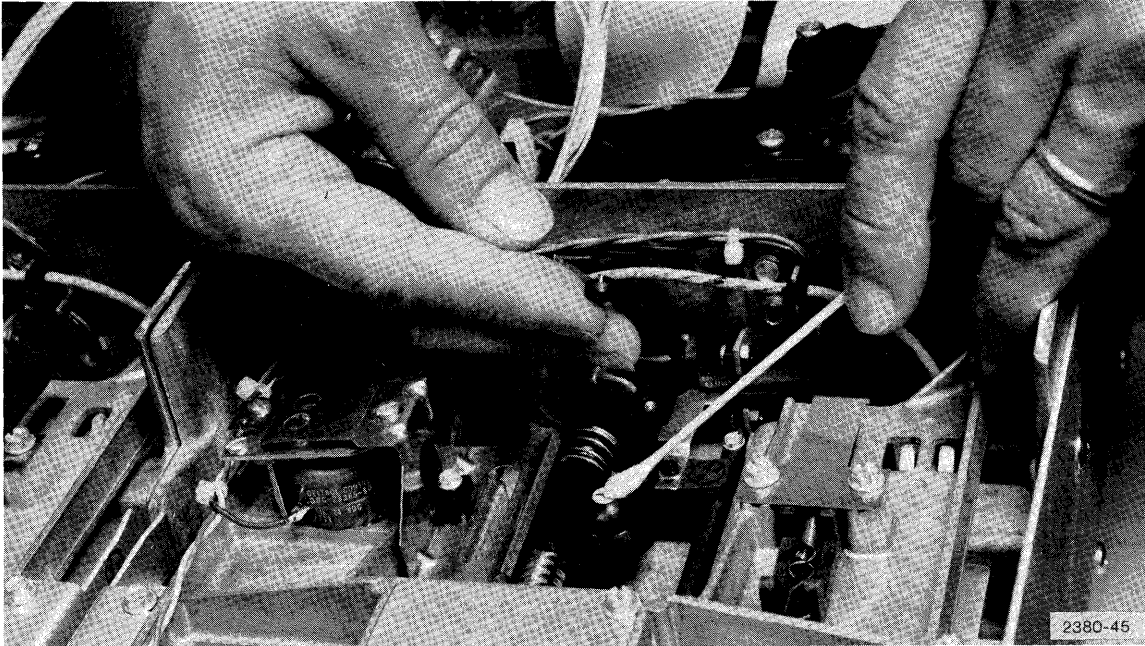

Figure 4-6. Cleaning Read/Write Head.
3. Use a cotton swab and denatured alcohol to remove accumulated oxide from the head (Figure 4-6).